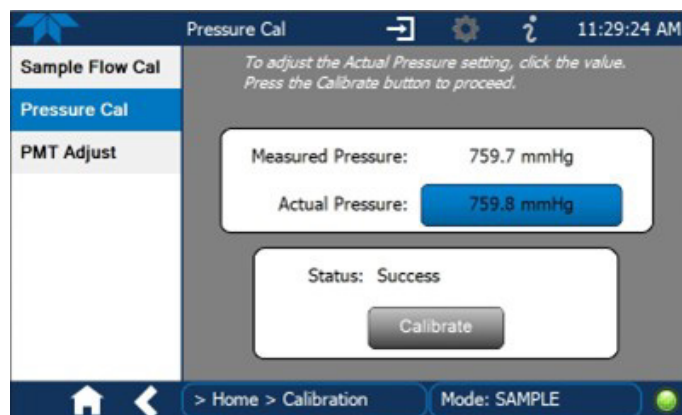

Figure 14. Pressure calibration screen.
2. Compare the "Measured Pressure" on this screen the the Audit Pressure Standard (**Figure 14**).